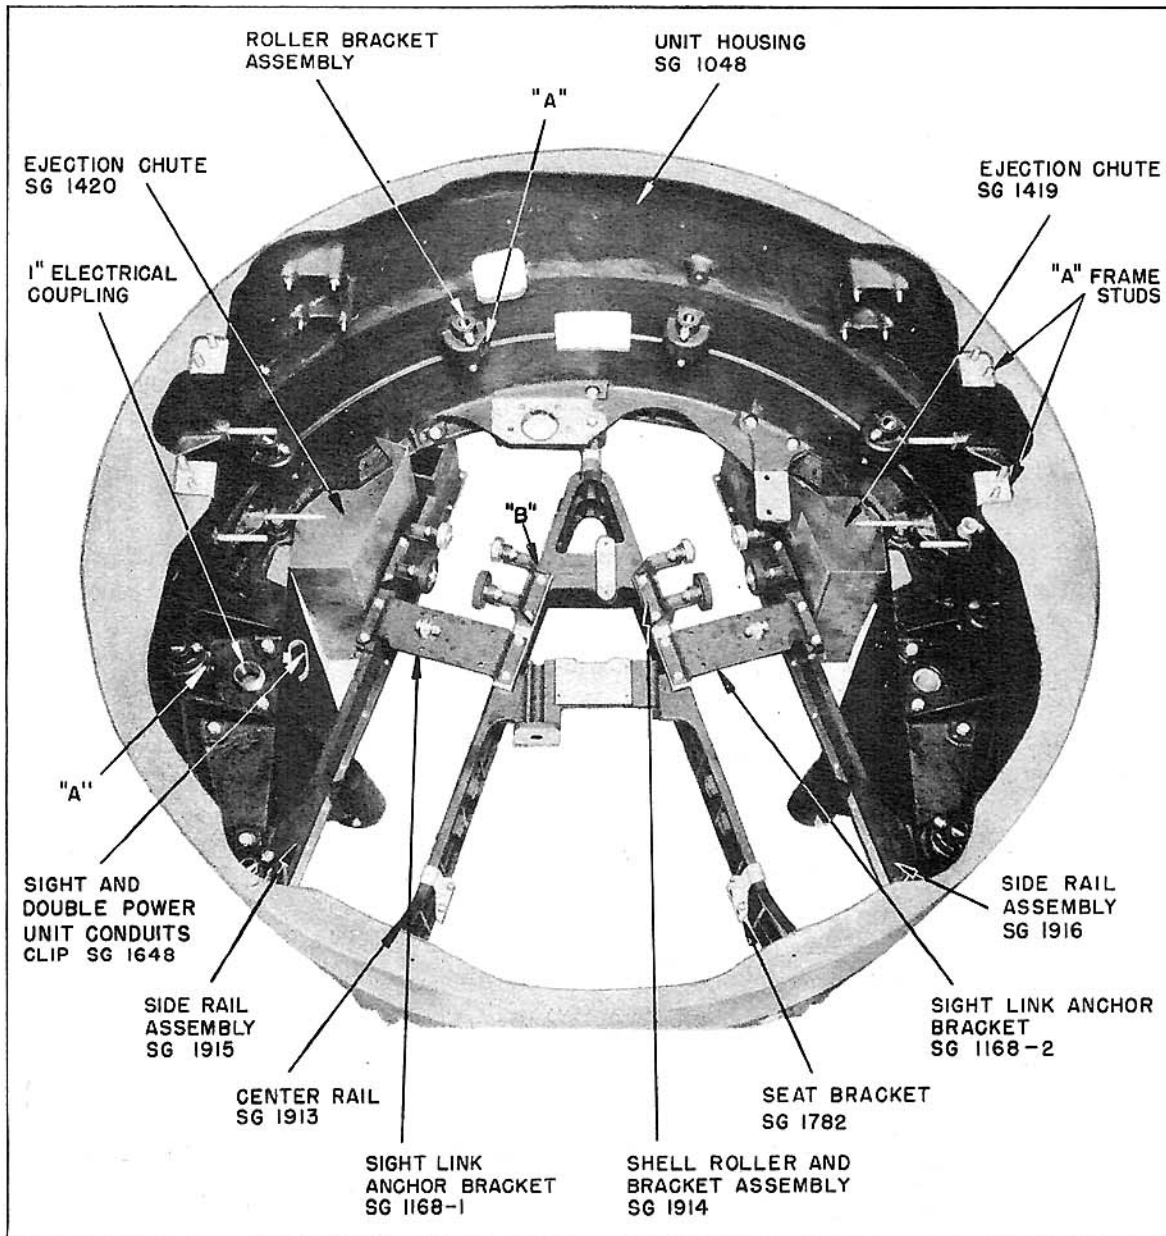

FIGURE 35
(1) Center Rail. - (a) Fasten center rail SG 1913 (Figures 35 and 36) to unit housing SG 1048 with 6 bolts (3/8"-24, 6-1/4" long), using 2 washers and an elastic stop nut on each bolt.
(3) 1" Electrical Coupling. - (a) Insert 1" electrical coupling into cord hole on left hand side of unit housing, as shown in Figure 35.
(5) Rollers. - (a) Fasten each of 10 rollers (Figure 35) to the unit housing, using 2 flat head screws (1/4"-28, 2") with washers and elastic stop nuts. If necessary, remove interference portions on 2 of the rollers (shown as "A" in Figure 35) to clear azimuth and elevation gear boxes.
(6) Shell Roller Brackets. (a) Mount a shell roller bracket (SG 1914) on each side rail, using 2 bolts (1/4"-28, 1-1/8") with 2 washers and an elastic stop nut. (See Figure 35.)
NOTE: It may be necessary to remove interference from left bracket if it touches azimuth spline shaft. (See surface "B" on Figure 35.)
(7) Shell and Clip Ejection Chutes. - (a) Attach the right and left shell and clip ejection chutes (SG 1419 and SG 1420) to the unit housing and side rails with 4 bolts (1/4"-20, 3/8") with washers, and safety wire the bolts. (See Figures 35 and 36.)
(8) Sight Link Anchor Brackets. - (a) The sight link anchor brackets (SG 1168-1 and SG 1168-2) are secured to the left and right side rails by 2 bolts (1/4"-28, 1-1/8"). See Figure 35. Two washers and an elastic stop nut are used for each bolt. Fasten brackets to the center rail, using 2 bolts (1/4"-28, 1-1/2") and 2 bolts (1/4"-28, 1-1/8") with 2 washers and elastic stop nut for each.
(10) Outside Ejection Panels. - (a) Mount left and right outside ejection panels (SG 1305-2 and SG 1305-1) to the upper 2 studs and secure panel and gear box with washer and elastic stop nut. (See Figures 35 and 39.)